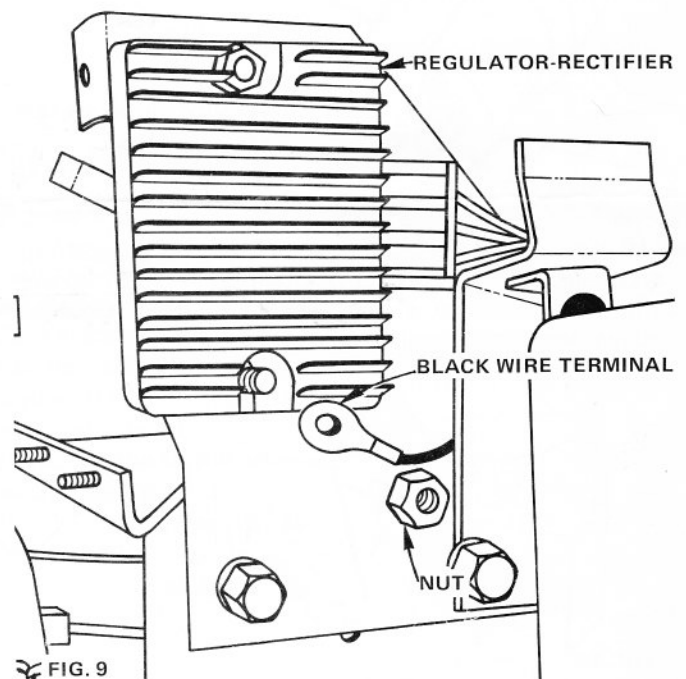

FIG. 9
1. Remove Nut from lower Bolt of Regulator - Rectifier (Fig. 9).
2. Connect Black Wire Terminal of Meter Wire Harness to Regulator - Rectifier as shown (Fig. 9).